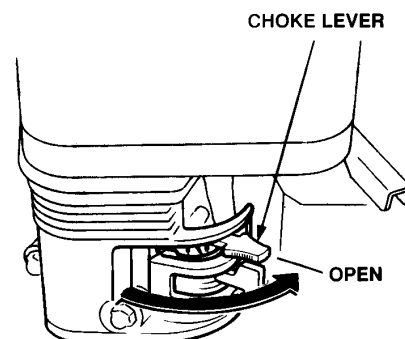

**Figure 21. Centrifugal Safety "Stop" Switch (ON)**
3. Place the **centrifugal safety "STOP" switch** (Figure 21) in the "ON" position.